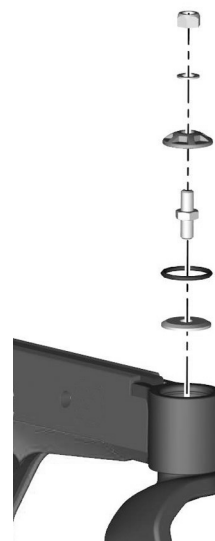

Figure 424. An early revision of the friction brake.
- i** This step does only apply if the wheelchair is equipped with an early revision of the friction brake (see Figure 424).